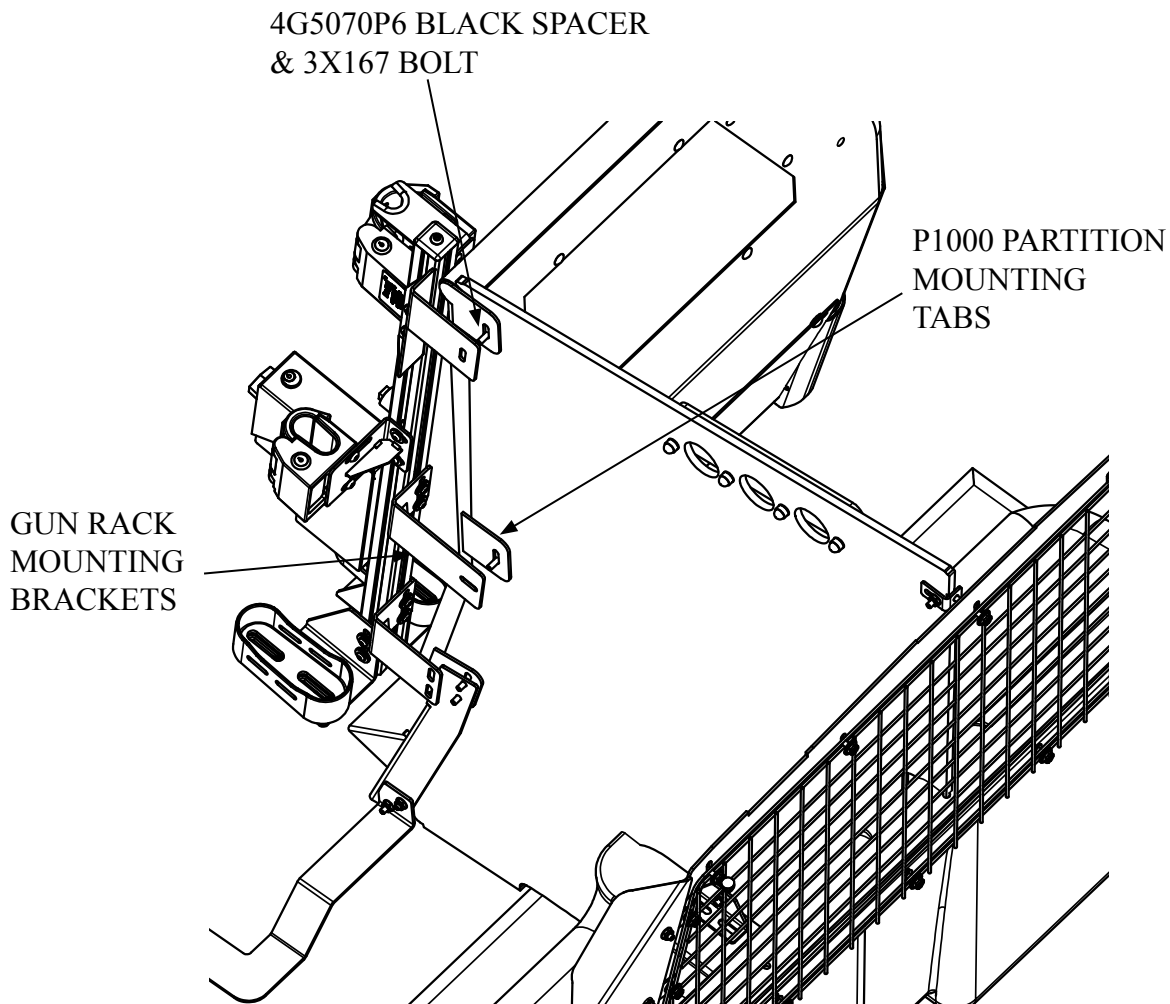

Figure 2.
- D. Remove the whiz nuts holding the poly center divider to the P1000 partition's mounting tabs one at a time starting with the top bracket working down. Then carefully insert the corresponding gun rack brackets over the bolts sticking through the partition mounting tabs. The top bracket 3GVM202-07 will have a 4G5070P6 spacer between it and the partition tab, along with a longer 3X167 bolt. Resecure them with the removed whiz nuts loosely before moving onto the next bracket. (See Fig. 2 on the next page)